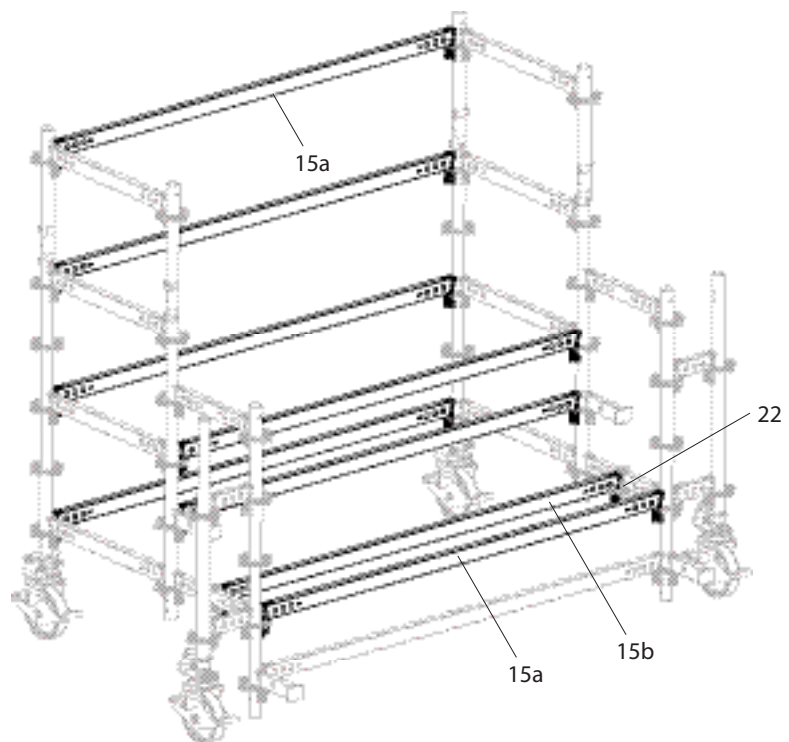

Fig. A2.05
3. Fit additional horizontal ledgers (15a). (Fig. A2.05)
4. To prevent the deck from shifting sideways, fit Ledger-to-Ledger Couplers UHA-2 (22) and additional Horizontal Ledgers UH-2 200 (15b), for example. (Fig. A2.05)